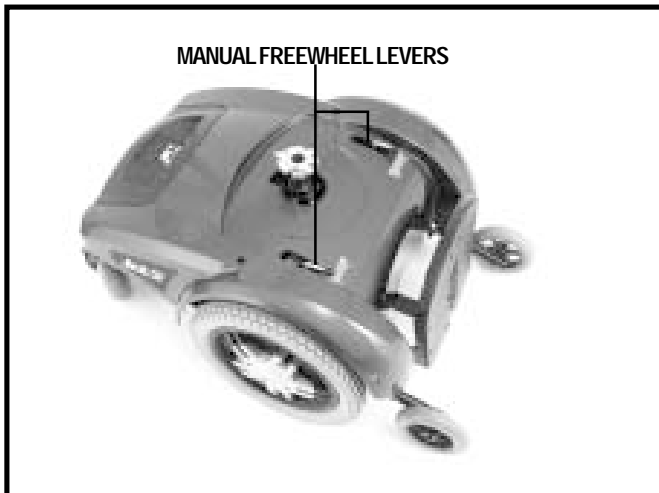

Figure 7. Drive Disengaged
For your convenience, your power chair is equipped with two manual freewheel levers. See figures 7 and 8. These levers allow you to disengage the drive motors and maneuver the chair manually.
1. Turn the manual freewheel levers outward to disengage the drive motors. See figure 7.